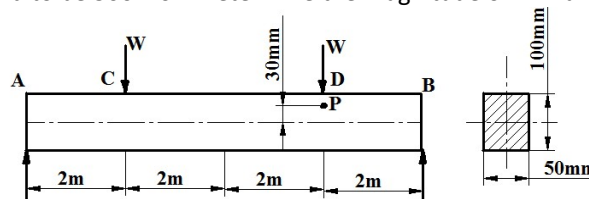

Figure 38
19. When a simply supported beam is subjected to the loads as shown in the **Figure 38**. The longitudinal strain induced at a point P is found to be 500×10^{-6} . Determine the magnitude of W. Take $E=200\text{GPa}$.